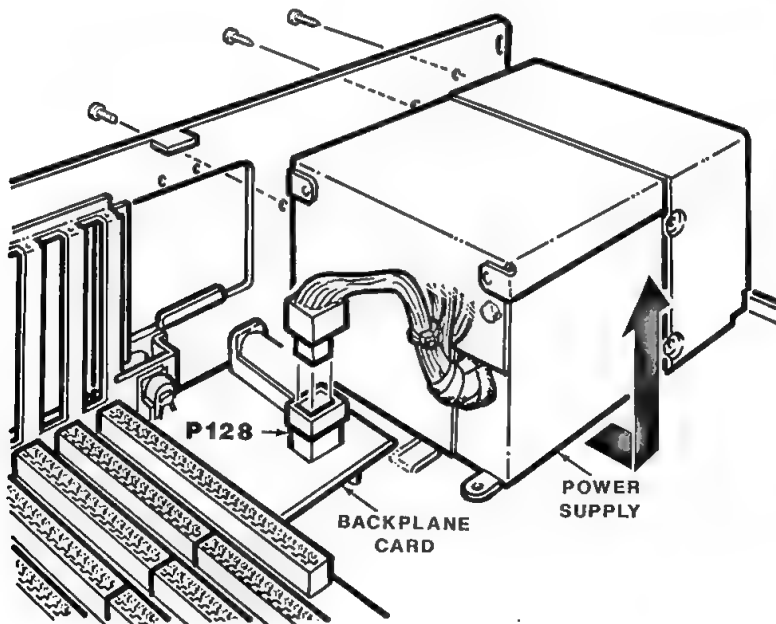

Figure 3-9. Power Supply Removal
9. Lift the power supply up and out of the computer chassis, as shown in Figure 3-9.